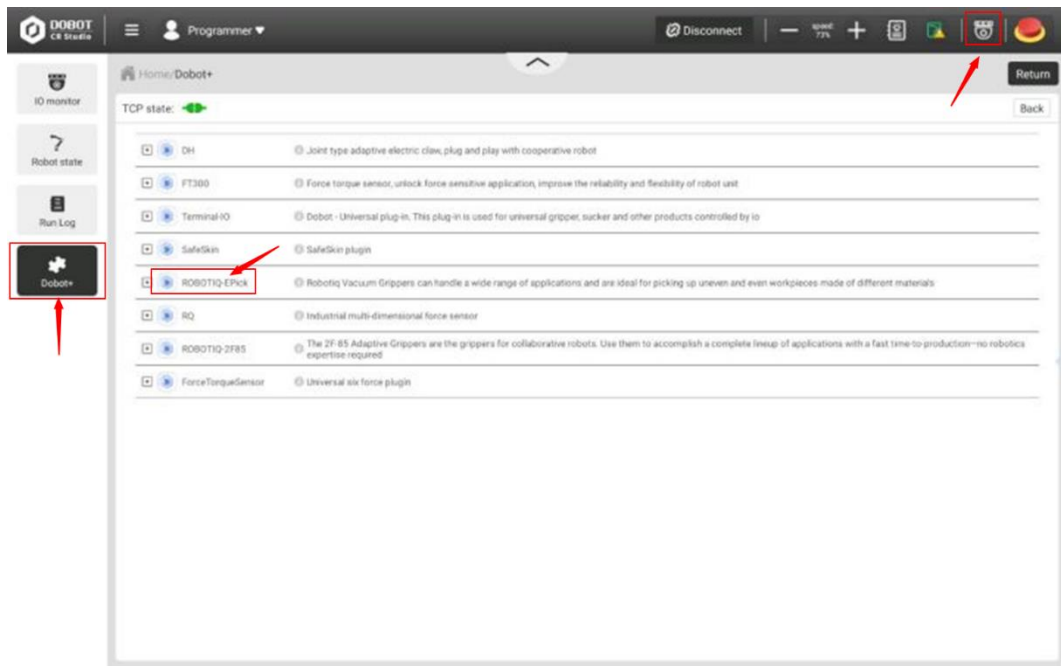

Figure 3.7 Install ROBOTIQ-EPick plug-in
Step 1 Click **Monitor** or  to enter the monitor page. Select **Dobot+** in the left-side menu, as shown in Figure 3.7. Double click **ROBOTIQ-EPick** plug-in to install it.